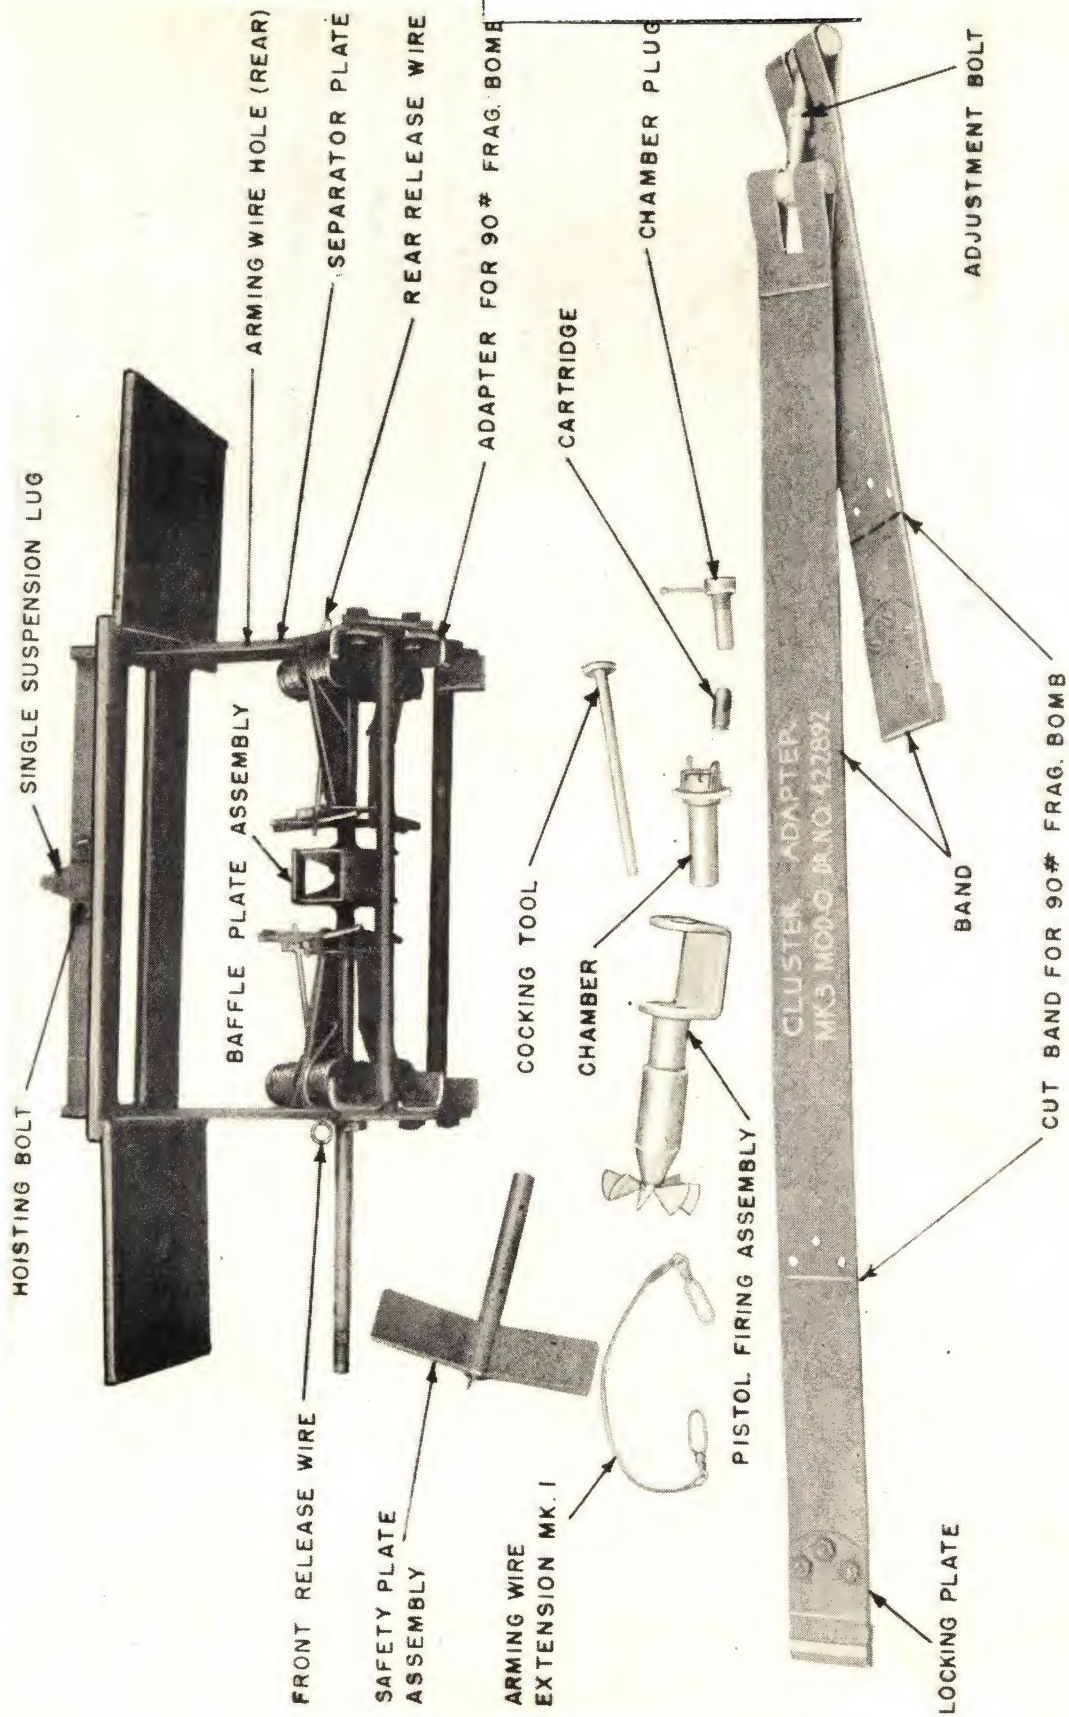

FIG. 5-DISASSEMBLED CLUSTER WITH NOMENCLATURE OF PARTS
B. For general data concerning the Cluster Adapter Mk 3 Mod 0, see Fig. 5, Disassembled Adapter with Nomenclature of Parts. Other general data are as follows: